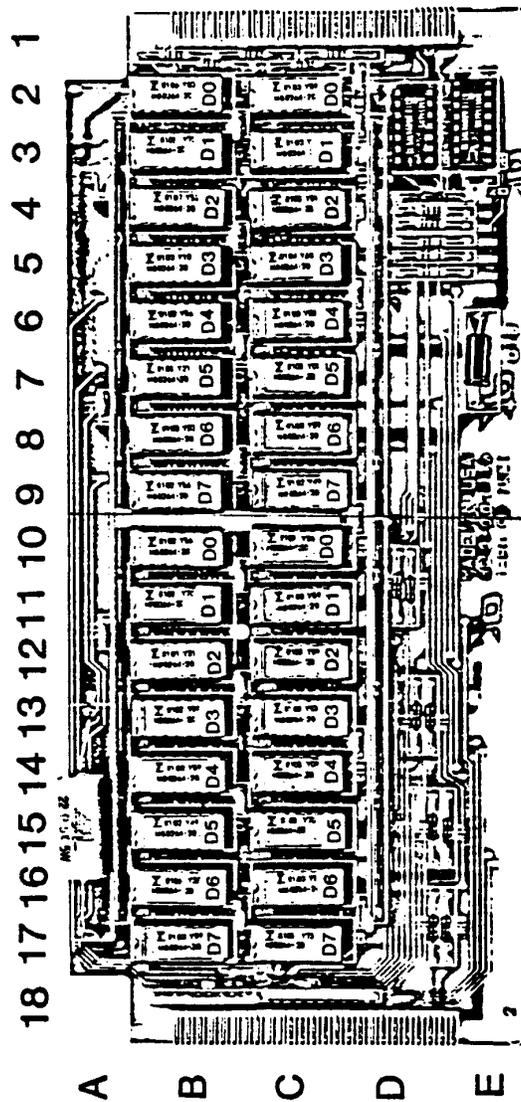

FIGURE 2
- 6) Determine the binary digit (bit) that is different between the EXP and the GOT. The leftmost bit is D7 and the rightmost bit is D0. In our example the D7 bit is different. This indicates that the chip marked D7 in Figure 2 in the position C9 (remember, we already got it down to C2 - C9) is defective.